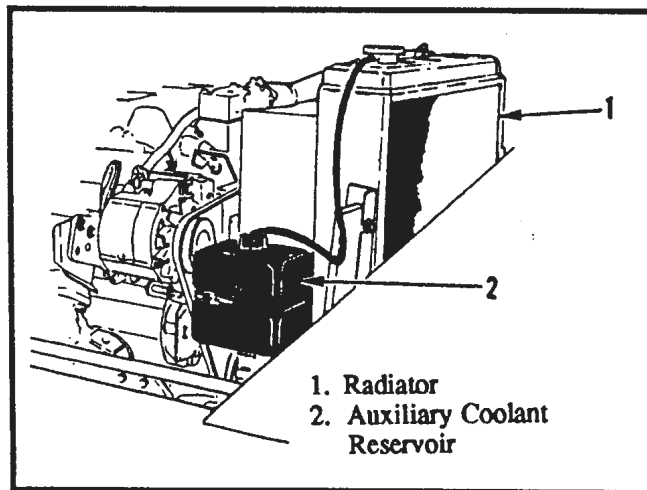

Figure 12-4. Engine Cooling System
6. Add coolant to the auxiliary coolant bottle as needed. Refer to Fig. 12-4.